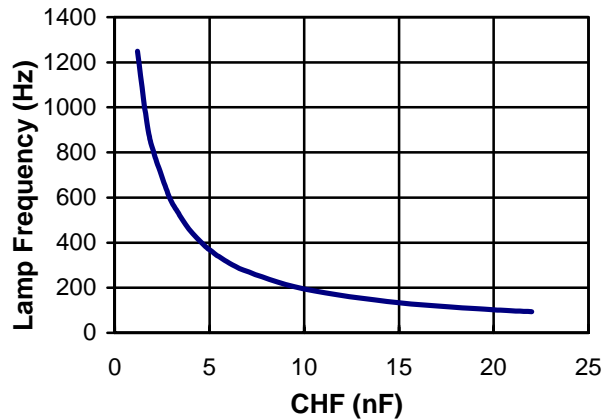

Figure 1: Typical Lamp Frequency vs. CLF Capacitor
Selecting the appropriate value of CHF capacitor will specify the inductor switching frequency (HF) and the lamp frequency (LF) of the D365A IC driver. A divider circuit in the internal oscillator circuitry of the D365A IC divides the inductor switching frequency by 72 to get the lamp frequency ($LF = HF/72$). Lamp frequencies of 200 – 500 Hz are typically used for longer EL lamp life. Figure 1 graphically represents the effect of CHF capacitor value on the lamp frequency oscillator at $V_+ = 3.3V$. In this example at $V_+ = 3.3V$, $LF = 2000 \text{ nF-Hz}/CHF$.